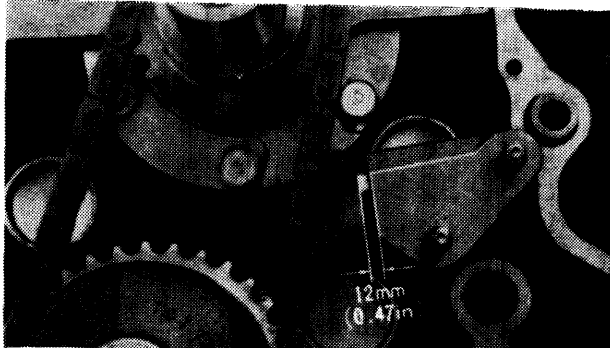

Fig. 27 Measuring Oil Pump Drive Chain Tensioner Extension
Place chain adjuster in position and tighten attaching nuts. Check that plunger extends .47" (12 mm). (See Fig. 27). If measurement is less, replace adjuster or chain. Install new "O" ring on front housing oil passage and install guide plate over chain adjuster. Install front cover and gasket on front housing. Lubricate oil seal in front cover. Install eccentric shaft pulley, using a new washer. Torque to 54-69 ft. lbs. (7.5-9.5 mkg).
1) With front engine cover removed, check chain adjuster. If it extends more than .47" (12 mm) from housing, replace chain or adjuster Fig. 27.